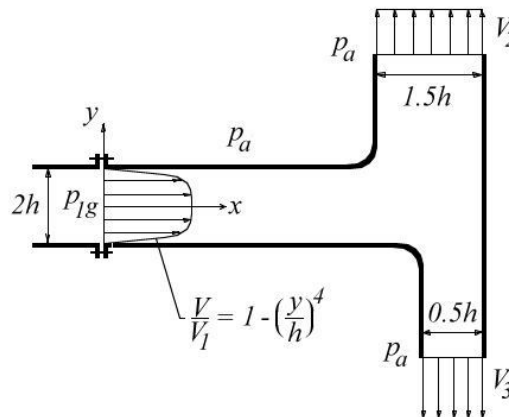

Figure P4.49
4.49 Air flows steadily through a tee-piece of width w , as shown in Figure P4.49. Gravity is not important, and the air density ρ is constant. The flow exits to atmospheric pressure p_a . If the resultant force acting on the tee-piece is zero: